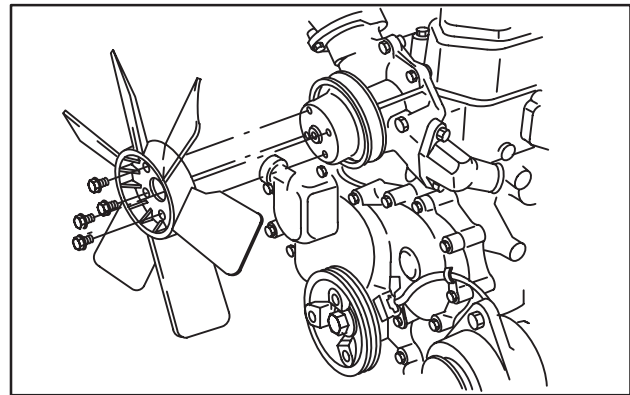

Fig. 12 – Installing Fan And Pulley
7. Install fan (if equipped) and water pump pulley, Fig. 12.